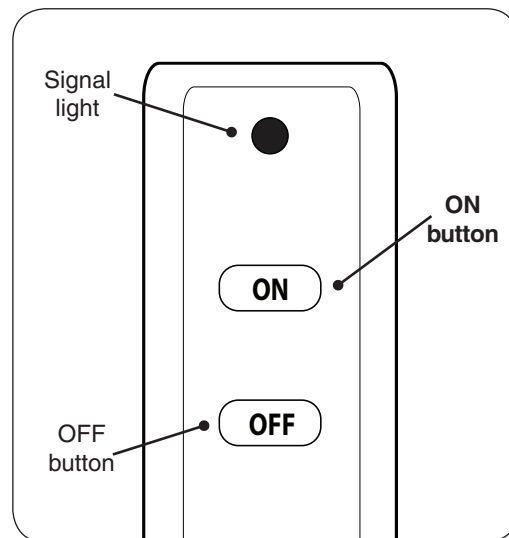

Fig. 11-2 Remote transmitter detail
2. Locate the remote transmitter and press the **ON** button (see Fig. 11-2). The ignition sequence will begin.